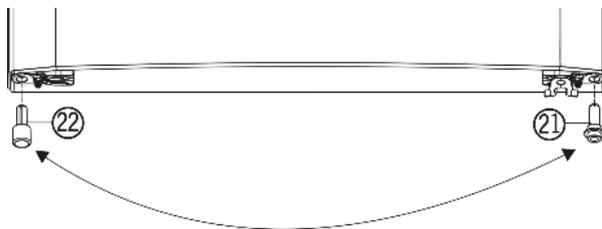

Fig. 5
- ▶ Remove the spacer Fig. 5 (22) from the bottom left of the door.
- ▶ Push the spacer *Fig. 5 (22)* into the bottom right of the door.